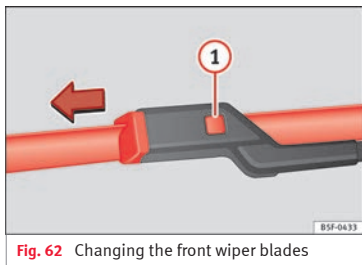

Fig. 62 Changing the front wiper blades
- Hold down the release button » Fig. 62 1 while gently pulling the blade in the direction of the arrow.